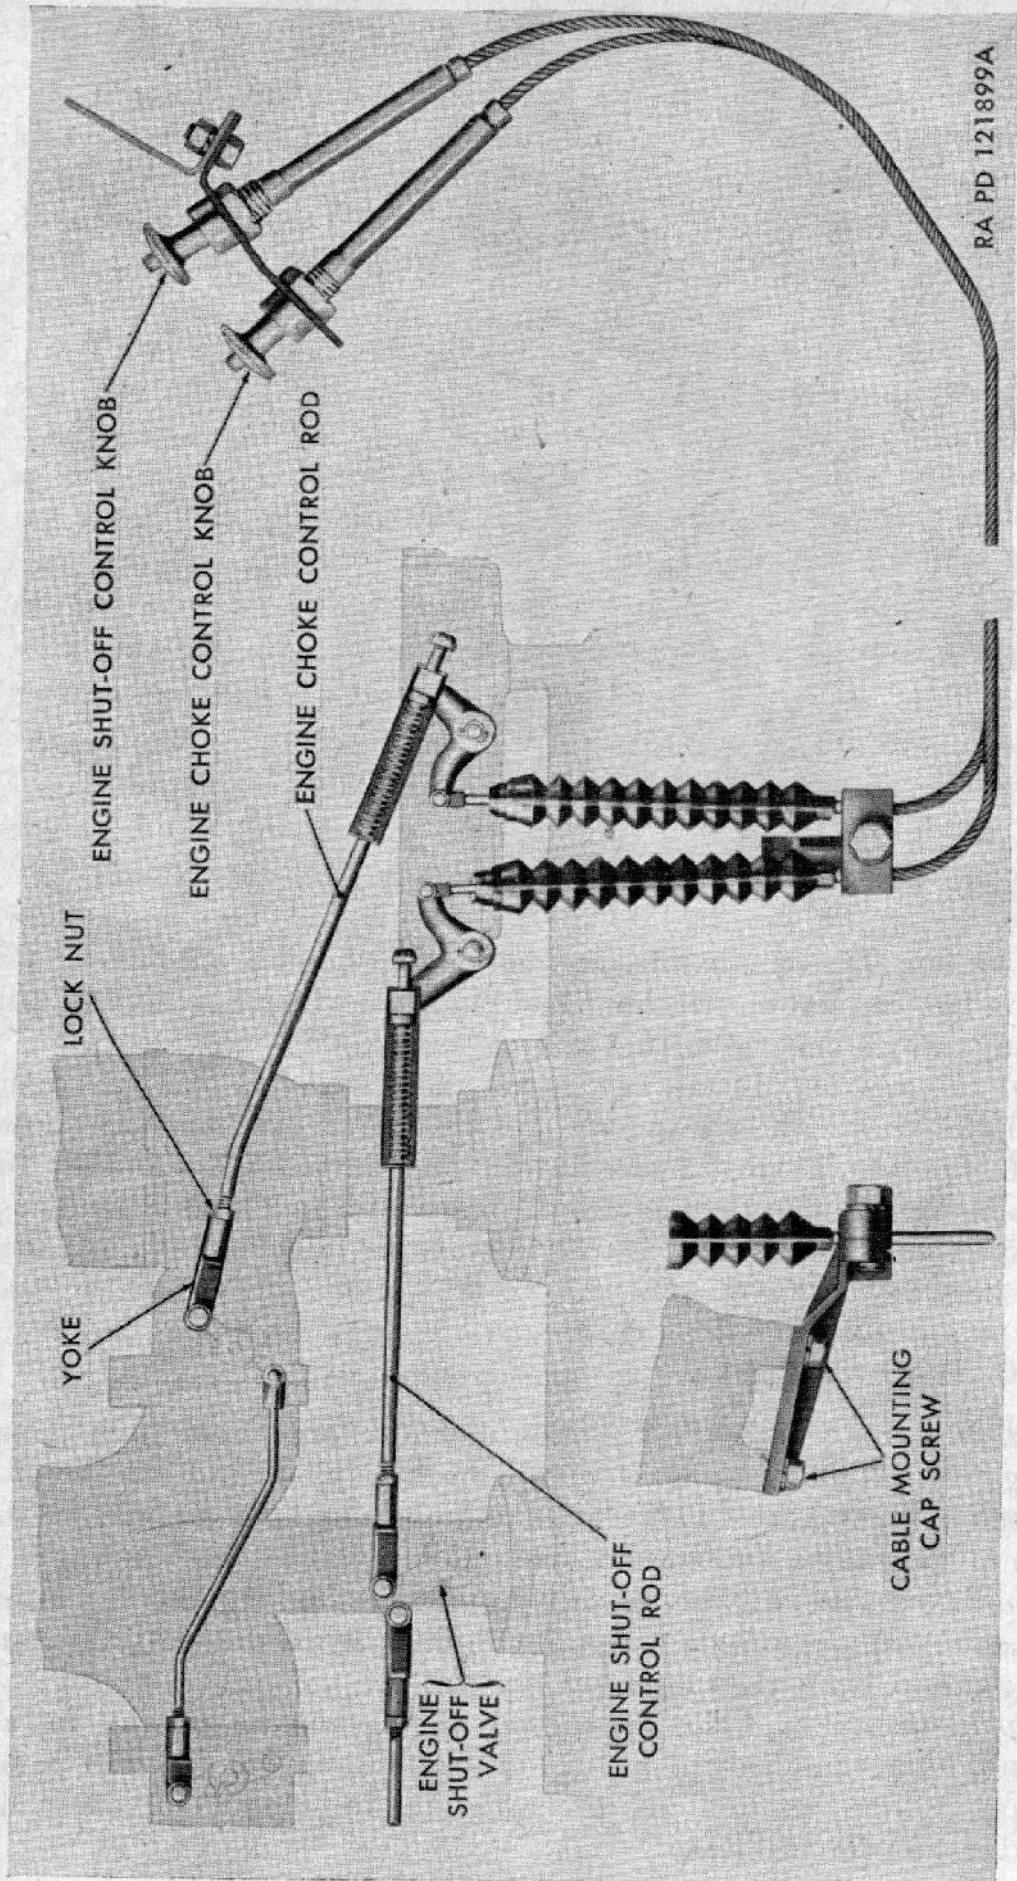

Figure 51. Choke and engine shut-off controls—*assembled view.*
screws and lock washers (fig. 51). Connect choke valve cable to the front bellcrank (choke) and the engine shut-off cable to the rear bellcrank (engine shut-off) with yoke pins and cotter pins (fig. 56).
g. Connect Choke and Engine Shut-Off Control Cables. Attach support bracket for choke and engine shut-off control cables to bottom of intake manifold on left hand engine with two cap screws and lock washers (fig. 51). Place cables against bracket (choke cable to rear), place clamp block against cables, then insert cap screw through clip on engine fuel primer line and through cable clamp. Tighten cap screw after connecting primer line to primer manifold. Connect cables in the same manner for the right hand engine.
- (8) *Engine shut-off valves.* Each engine shut-off valve assembly consists of a butterfly-type air valve assembly located on intake manifold between the carburetors (fig. 51). Both the engine shut-off valve and the ignition switch are operated by the same cable from the engine shut-off control knob on the instrument panel (fig. 6). Pushing in on knob opens the air valve and opens ignition switch at the same time. The air valve is provided and used in conjunction with the ignition switch to prevent the engine from continuing to run through self ignition. Pushing in on knob allows air to be drawn into the engine directly from the atmosphere, instead of being drawn through the carburetors and being mixed with fuel.
a. Adjustment. Push engine shut-off control knob against bracket on instrument panel (fig. 6). The air valve in the air inlet should be vertical (parallel with carburetor air inlet). If the valve is not vertical with the control knob against the bracket or fully closed when the knob is pulled out, loosen screw at front end of the engine shut-off control rod (fig. 51). Turn shut-off control rod until air valve is fully closed and tighten screw. This rod should measure 16½ inches between centers of yoke pin holes after adjustment is made. Replace yokes or yoke pins if worn.
a. Choke Controls (Each Engine). Open engine compartment doors. Disconnect the adjustable yoke on end of choke control rod from the valve lever (fig. 51). Make sure the choke control knob for that engine is all the way in against bracket on instrument panel (fig. 6) and that springs on choke valve levers are holding the valves against their stops. Adjust yoke end of rod so that rod can be connected again to lever without changing the position of lever, and